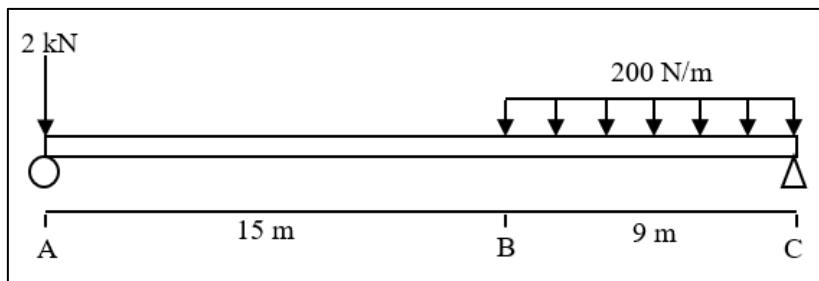

Figure A2(a)
- CLO2 (a) Figure A2(a) shows a 24 m simply supported beam subjected to a uniform distributed load of 200 N/m and point load of 2 kN along its span. Sketch the free body diagram for the beam.